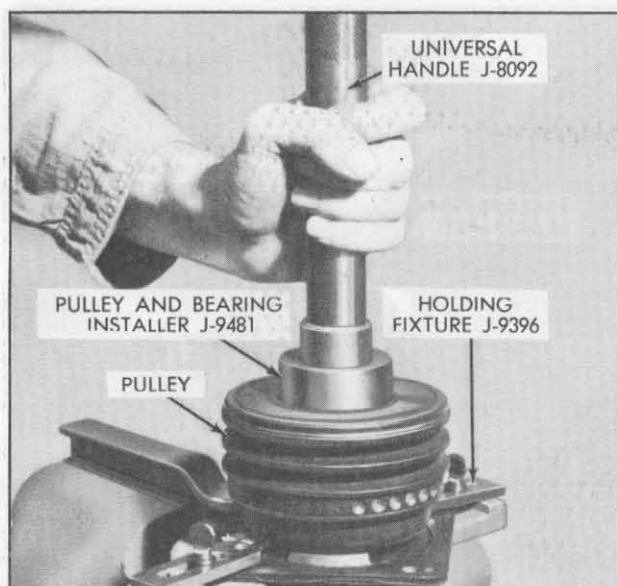

Fig. 1-63 Installing Pulley and Bearing Assembly
3. Press or tap pulley and bearing assembly on neck of compressor until it seats, using Pulley and Bearing Installer, J-9481, with Universal Handle, J-8092, Fig. 1-63. Installer will apply force to inner race of bearing and prevent damage to bearing.